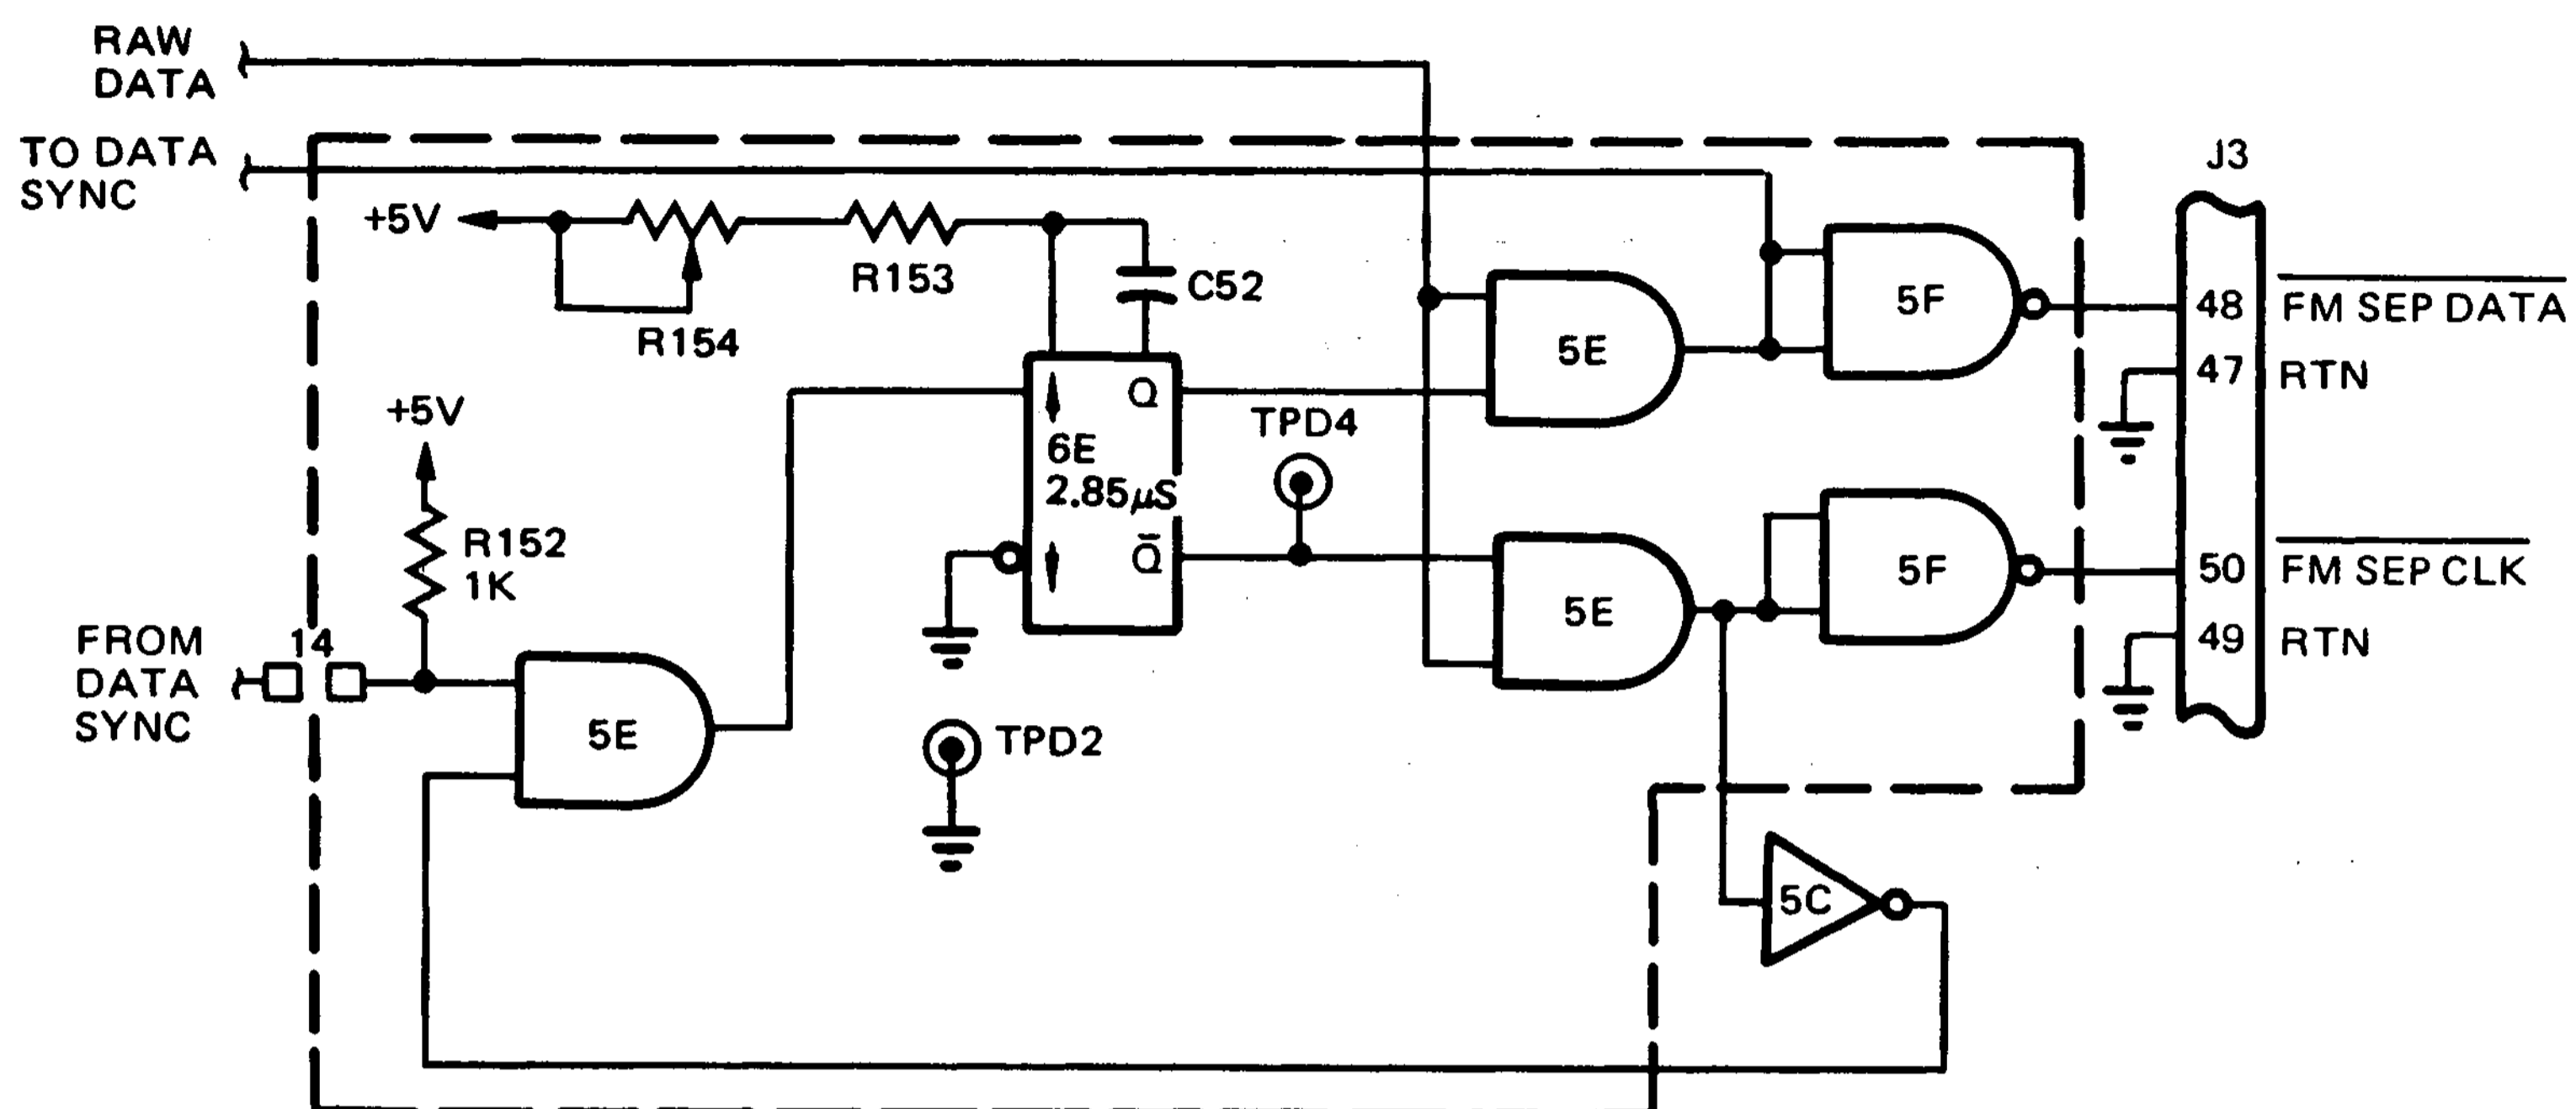

Figure 3-37. FM Data Separator (Option) Logic
The FM Data Separator option is usable only when the disk drive is used for single-density recording. Frequency modulated (FM) encoding is defined as being a pulse train wherein a clock pulse occurs every 4 microseconds, a binary one data bit pulse occurs midway between clock pulses, and no pulse occurs if the data bit is a binary zero. The logic is shown in Figure 3-37.